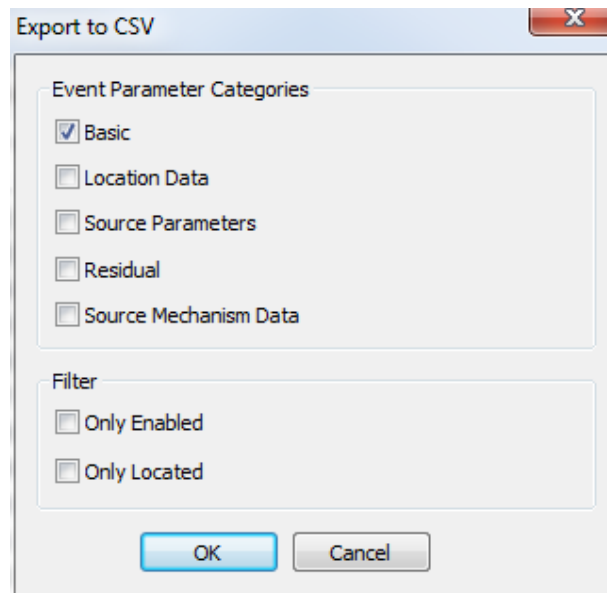

Figure 5-16: Export to CSV menu.
- Export selected components to CSV (Events) - launches a Dialog (Figure 5-16) to allow the user to select which information to write to csv file for enabled and/or located events in the selected component. This method allows export of event and instrument parameters.